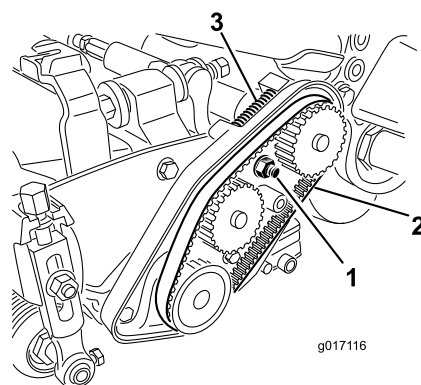

Figure 45
- A. Loosen the bearing housing mounting nut (Figure 45).
- C. Clean any debris from inside the belt compartment and from around the compression spring (Figure 45).